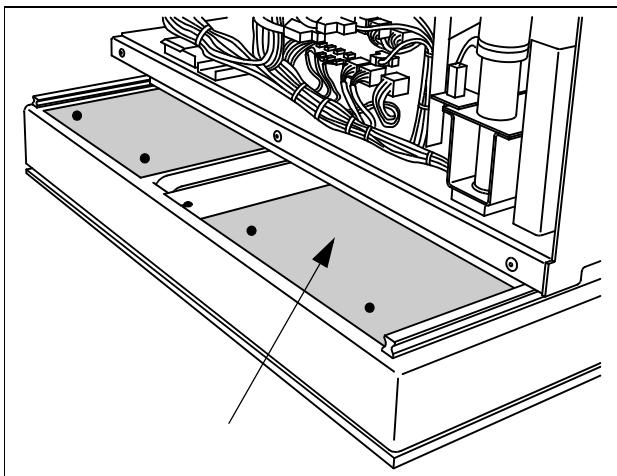

Fig. 2
- Remove the front cover (Fig. 2).